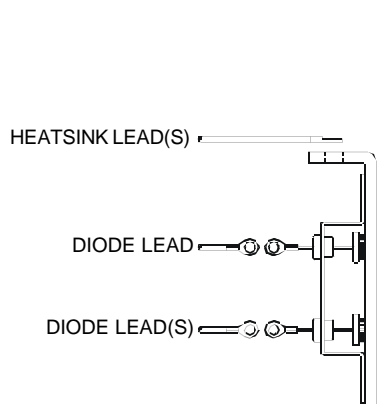

FIG. 1
4. New replacement heatsink may be different in appearance from original. See Figure 1.